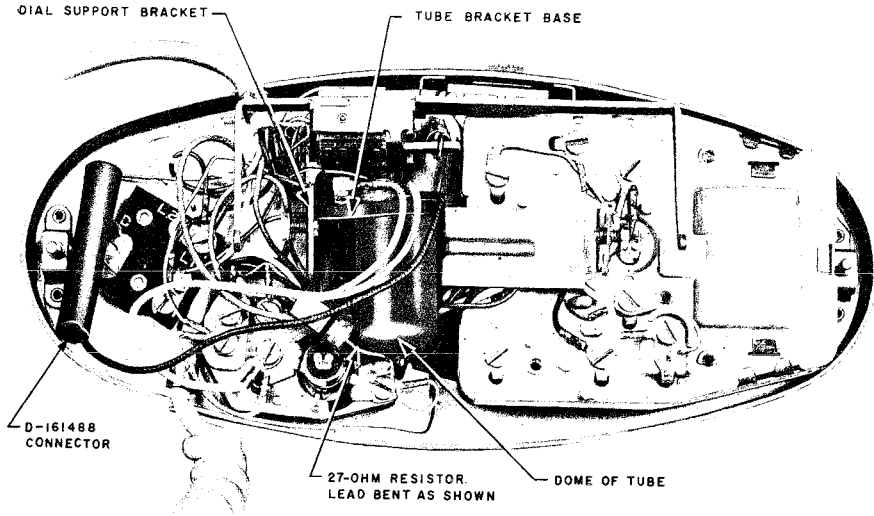

Fig.15 — Location of Cold-Cathode Tube in 701B Telephone Set
6. Place the tube in space below dial with dome of tube toward night-light socket and base of plastic tube bracket against dial support bracket (see Fig. 15).